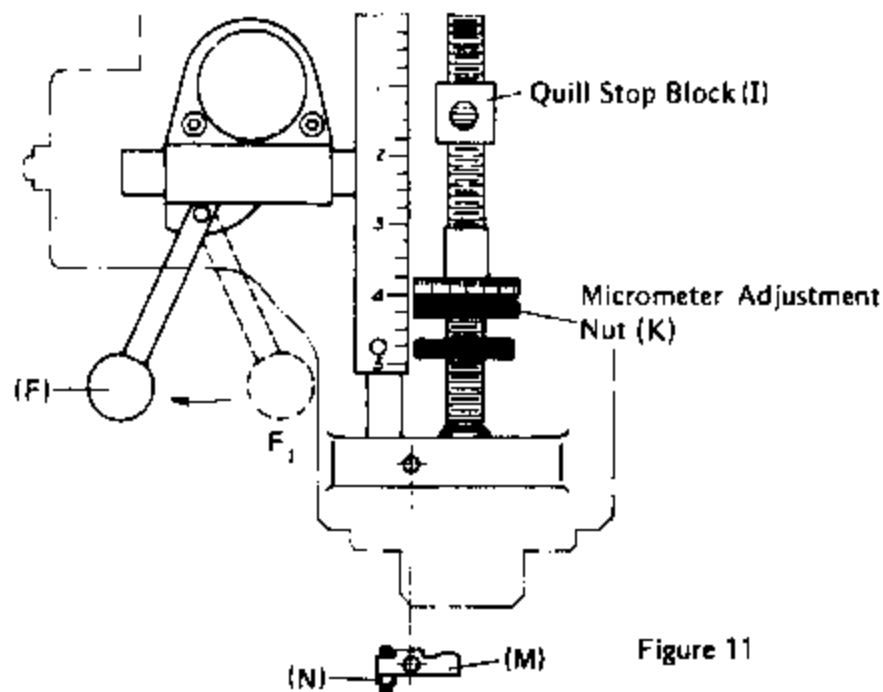

Figure 11
- a'. Loosen the quill lock (L).
- b'. Turn the power feed transmission engagement crank (I) from "OUT" to "IN" position. Make certain to engage the worm gear cradle with the spindle gear hub so that the driving will be directed from the spindle worm and worm gear before it is passed to the speed change gears.
- c'. Feed speed is in three stages. H, L and M. Selection may be made by quill feed selector (C).
- d'. Pull the feed control lever (F) from (F1) to (F2) position (Figure 11) to engage the overload clutch for automatic feed mechanism.
- f'. As shown in (Figure 11), the working depth may be set by micrometer adjustment nuts (K) (each graduation is 0.001" or 0.02mm). When the quill stop block (I) contacts the micrometer adjustment nut (K), the feed control lever (F) may simply jump from (F2) back to (F1) position owing to the connecting motion between the feed trip lever and feed trip plunger. This will disengage the overload clutch and stop the spindle feed.